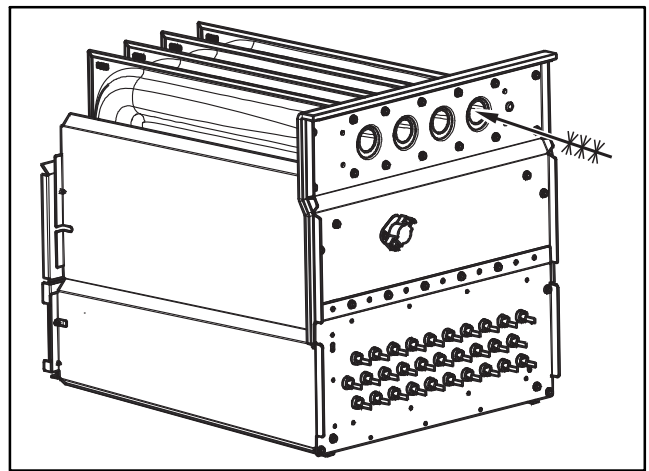

Figure 11 - Cleaning Heat Exchanger Cell
7. Clean heat exchanger openings with a vacuum and a soft brush. (See Figure 11.)